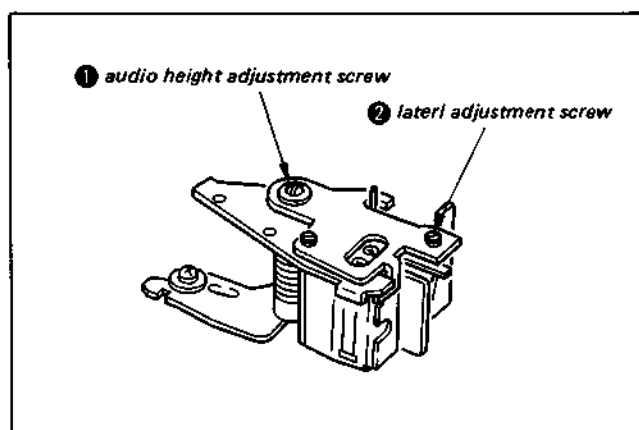

Fig. 4-14
- 2) Turn the audio head height adjustment screw ① and the lateral adjustment screw ② (Fig. 4-14) until the audio output waveform amplitude is maximum.